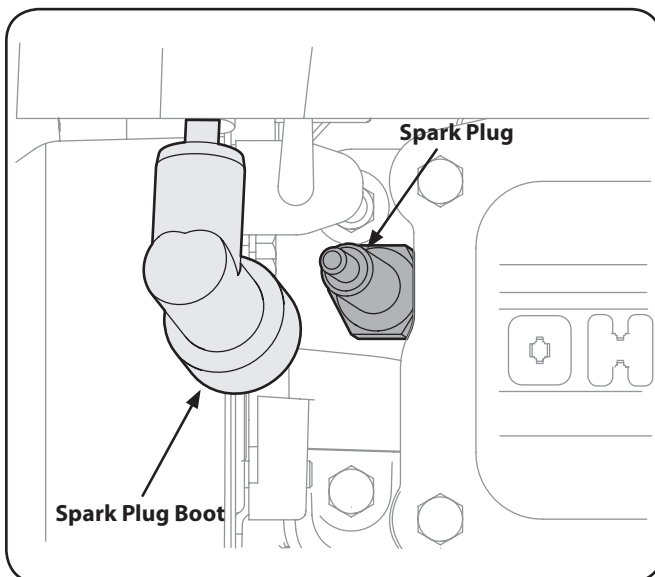

Figure 6-4
1. Remove the spark plug boot and use a spark plug wrench to remove the plug. See Figure 6-4.